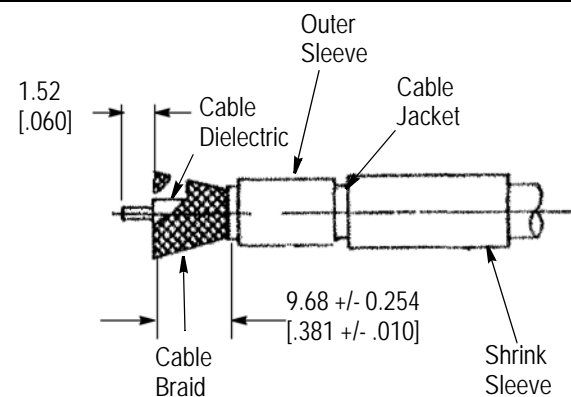

Figure 2
2.1. Preparing the Cable (Figure 2)
- Trim the dielectric to the length shown in Figure 2.
- Trim the outer conductor to the length shown in Figure 2.
- Trim the inner conductor to the length shown in Figure 2.